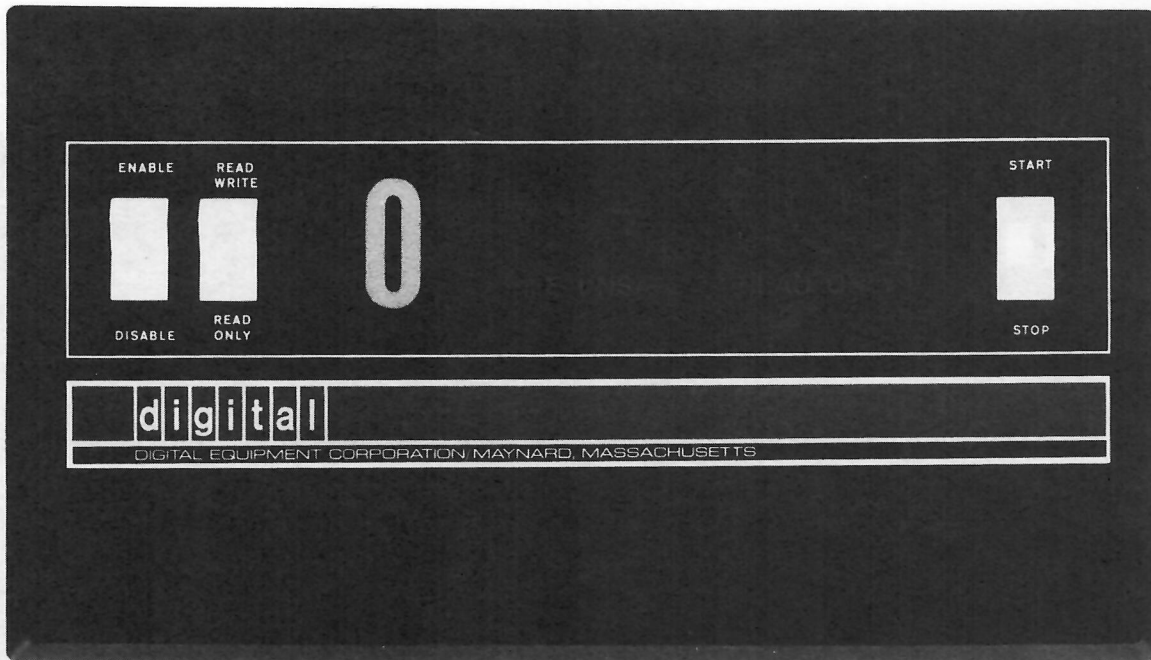

Figure 6-2 Drive Unit RP02 Controls and Indicators
6.1.1.1 Drive Unit - Disk Pack Drive Unit (RP02) controls and indicators are illustrated in Figure 6-2 and described in Table 6-1.